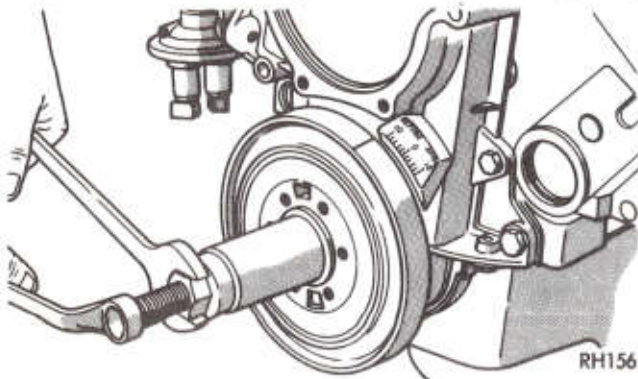

Fig. 28—Installing Vibration Damper with Tool C-3688
(4) Install vibration damper using tool C-3688 (Fig. 28).
(5) Install retainer bolt and washer and torque to 135 ft. lb. (183 N·m).
(6) Install pulley on vibration damper and torque to 200 in. lb. (23 N·m).
(7) Set radiator shroud back over engine and install fan and belts.
- (1) Be sure mating surfaces of chain case cover and cylinder block are clean and free from burrs.
- (2) Using a new cover gasket, carefully install chain case cover to avoid damaging oil pan gasket. A 1/8 (3.175mm) inch diameter bead of RTV sealer (PN-4026070) or equivalent is recommended on the oil pan gasket. **Do not tighten screws at this time.**
- (3) Lubricate seal lip with lubriplate or equivalent. Position damper hub slot in crankshaft. Damper will act as a pilot for the crankshaft seal.
- (4) Place installing tool, part of Puller set Tool C-3688 in position and press vibration damper on crankshaft (Fig. 28).
- (5) Tighten chain case cover cap screws to 30 ft. lbs. (41 N·m) **first**. Then tighten oil pan cap screws to 200 in. lbs. (23 N·m).
- (6) Install vibration damper retainer bolt with washer and tighten to 135 ft. lb. (183 N·m).
- (7) Position pulley on vibration damper and attach with bolts and lockwashers. Tighten to 200 in. lb. (23 N·m).
- (8) Install fuel pump and fuel lines.
- (9) Install water pump and housing assembly using